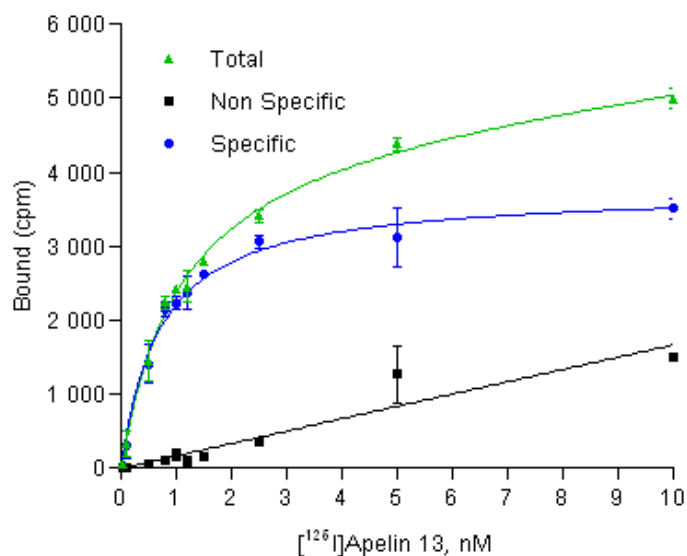

Figure 3: Saturation Binding Assay Curve (Filtration)
2. Assembly on ice (in 96 Deep well plate)	<ul style="list-style-type: none"> <li>25 µL of assay buffer or of unlabeled ligand (Apelin-13, 2 µM final) for determination of non specific binding</li> <li>25 µL of radioligand at increasing concentrations (see figure 3)</li> <li>150 µL of diluted membranes</li> </ul>